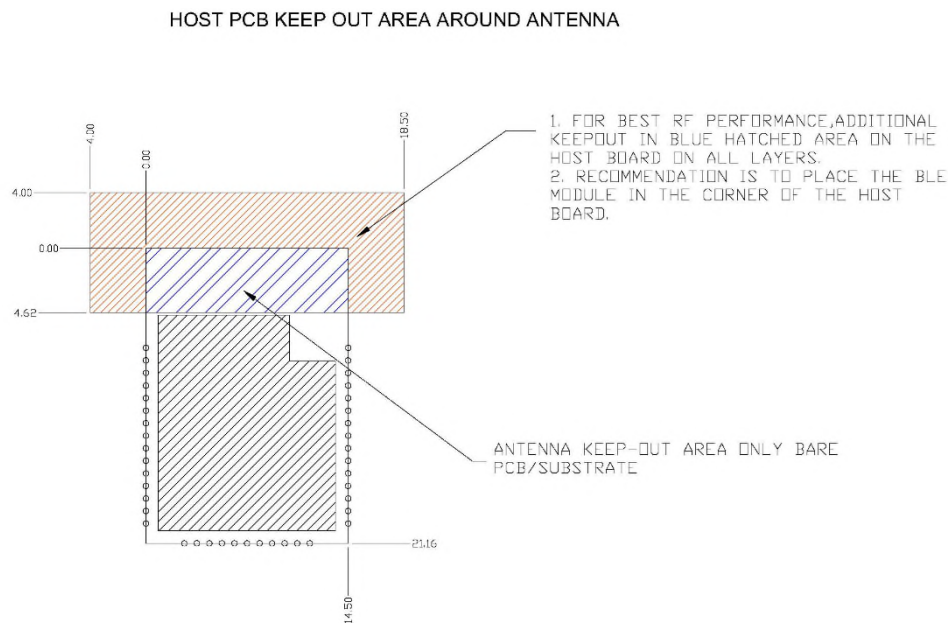
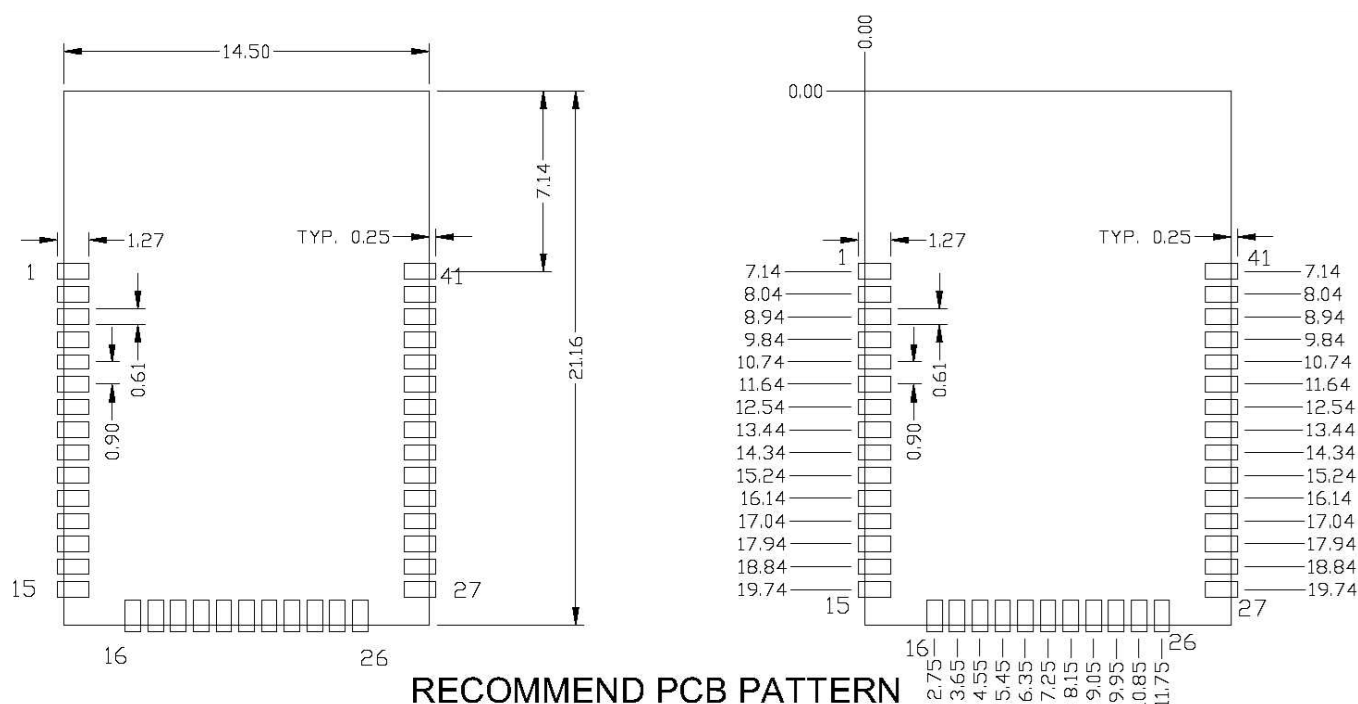

Figure 4 Recommended host PCB keepout area around the CYW20829B0-P4XXI200 antenna
Figure 5 CYW20829B0-P4XXI200 host layout (dimensioned)
1. Antenna Area Keepout: The host board directly below the antenna area of the module (see Figure 4) must not contain ground or signal traces. This keepout area requirement applies to all layers of the host board.
2. Module Placement: The ideal placement of the Bluetooth® module is in a corner of the host board with the PCB trace antenna located at the far corner. This placement minimizes the additional recommended keepout area stated in item 2. Refer to KBA97095 for module placement best practices.
Figure 5 provides details that can be used for the recommended host PCB layout pattern for the CYW20829B0-P4XXI200. Dimensions are in millimeters unless otherwise noted. Pad length of 1.27 mm (0.64 mm from center of the pad on either side) shown in **Figure 4** is the minimum recommended host pad length. The host PCB layout pattern can be completed using either **Figure 5**. It is not necessary to use all figures to complete the host PCB layout pattern.